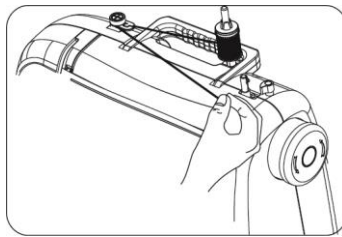
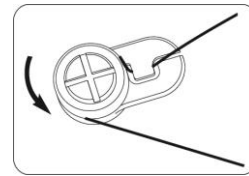

Fig.28
Fig.29
2. Guide the thread through the bobbin winder tension disk on the upper side of the machine. (Fig.28 & Fig.29)